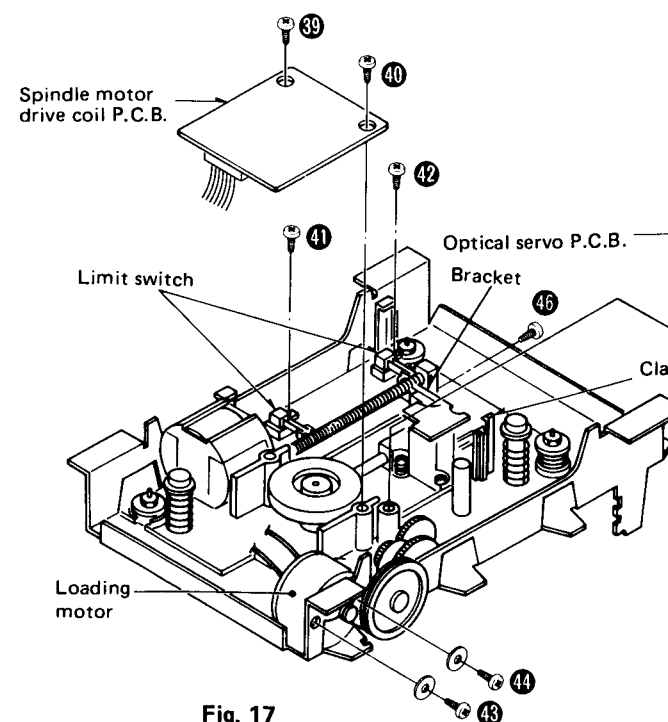

Fig. 17
2. Turn over the traverse unit and remove the optical servo P.C.B. setscrew [Fig. 17 : 38].
4. Remove the 2 setscrews [Fig. 17 : 39, 40] of spindle motor drive coil P.C.B.
2. Remove the 2 setscrews [Fig. 17 : 41, 42] of limit switch, and unsolder the limit switch.
3. Remove the 2 setscrews [Fig. 17 : 43, 44] of loading motor, and unsolder the motor leads.
4. Remove the bracket setscrew [Fig. 17 : ④] of pickup to remove the bracket.